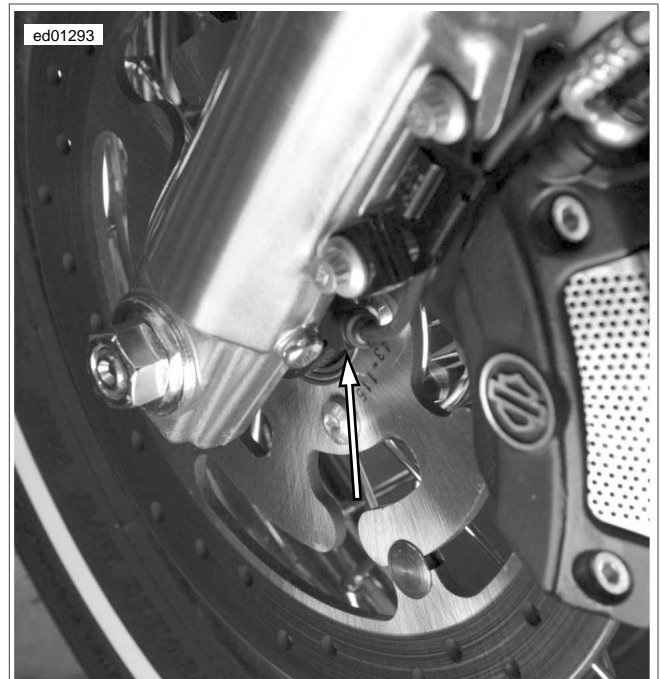

Figure 6-2. Front Wheel Speed Sensor
- See Figure 6-2. Front Wheel Speed Sensor.